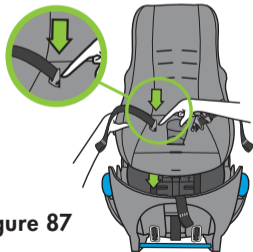

Figure 87
- Position Chest Clip so that end of Chest Clip is aligned with the hip strap opening, and push Chest Clip down through hip strap opening in Carrier Cover and Inner Carrier Shell, as shown in **Figure 87**.